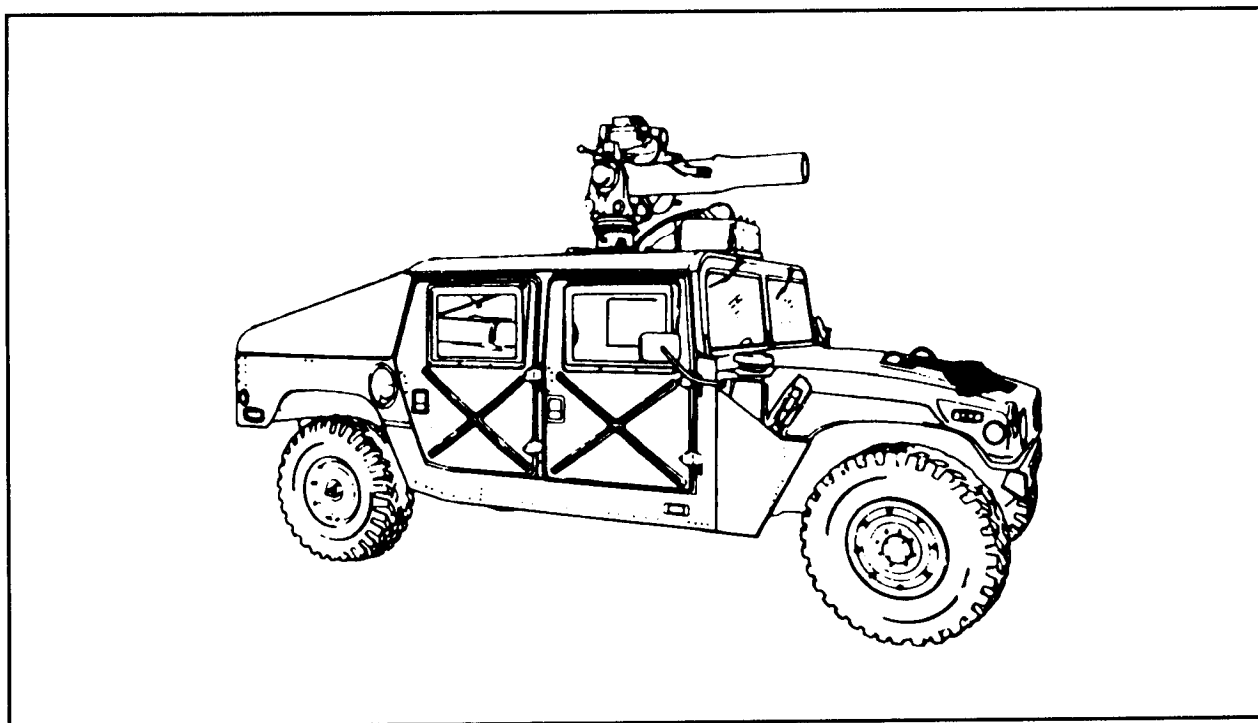

Figure 3-1. M966-mounted TOW.
*The M966-mounted TOW is a one-vehicle (1 1/4-ton truck) combat system that is air-transportable, versatile, maintainable, and survivable (Figure 3-1). Its 16-inch ground clearance, four-wheel independent suspension, steep approach and departure angles of 60-percent gradability, side slope of 40-percent, and 30-inch (without kit, 60-inch with kit) water-fording capability provides the off-road mobility and speed needed in combat. The vehicle carries one complete launcher system, six encased missiles, and a three-man crew. This chapter discusses the duties of the crew and the detailed operations of the weapon system.*